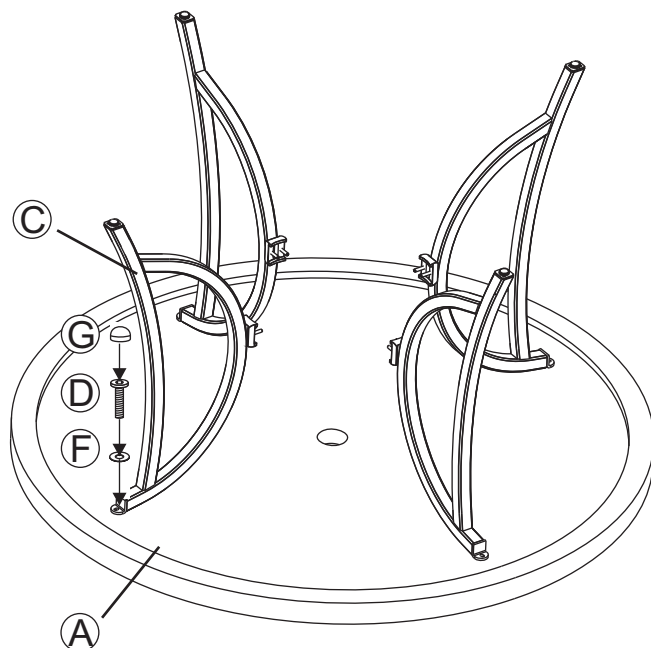

Figure 1
Step 3: Important: We recommend 2 people work together to assemble the chair. Note the arrow labels on the "U" bar and the rocker assembly. Also note the horseshoe shape of the rocker plate. Point the open end of the horseshoe away from you. The arrows on the rocker assembly should be pointing towards you. Set the chair frame on the rocker assembly with front of the seat facing you and the arrows on the "U" bar pointing towards you as shown in *Figure 1*. This is very important for a safe, balanced rocking motion. **If chair frame has been properly positioned on the rocker assembly, all arrows on the "U" bar and rocker assembly will be pointing in the same direction.**
Step 4: Critical Step: The "U" metal plates must be installed in the proper location. Read this step and carefully examine. Insert the "U" metal plate, so that the "U" bar and rocker plate are between both sides of the "U" metal plate. Make sure that the holes in the "U" metal plate are completely aligned with the holes in the "U" bar as shown in *Figure 1*. Guide the bolts through the holes on the top side of the "U" metal plate, through the holes in the "U" bar portion of the chair, through the holes in the rocker plate and then, most importantly, through the holes in the bottom side of the "U" metal plate. It is very important that the holes in the bottom portion of the "U" metal plate be placed directly beneath the holes in the rocker plate. Add a spring washer and a nut to each bolt as shown in *Figure 2*. **Hand tighten nuts 3-4 revolutions only.** Repeat the same procedure on the other side.
- 1 Place the table top upside down on a flat, non-abrasive surface. Attach a table leg to the table top by using the bolts and washers as shown in the **Figure 1**. Guide the bolts through the holes in the table leg, into the pre-drilled holes in the table top. **Hand tighten 2-3 turns only.** Repeat for the other three legs.